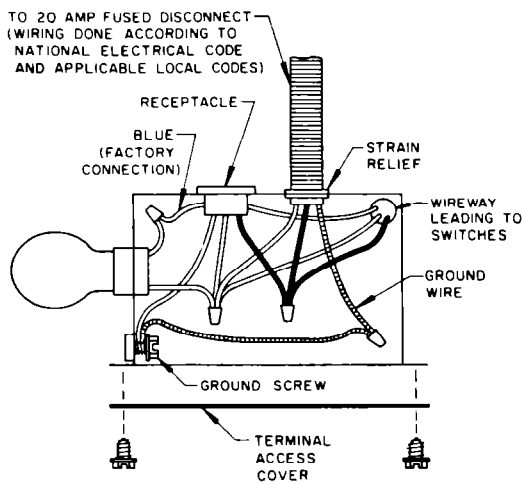

Figure 13
2. Install a strain relief into the opening of the wire junction box. (Figure 13, pg. 5).